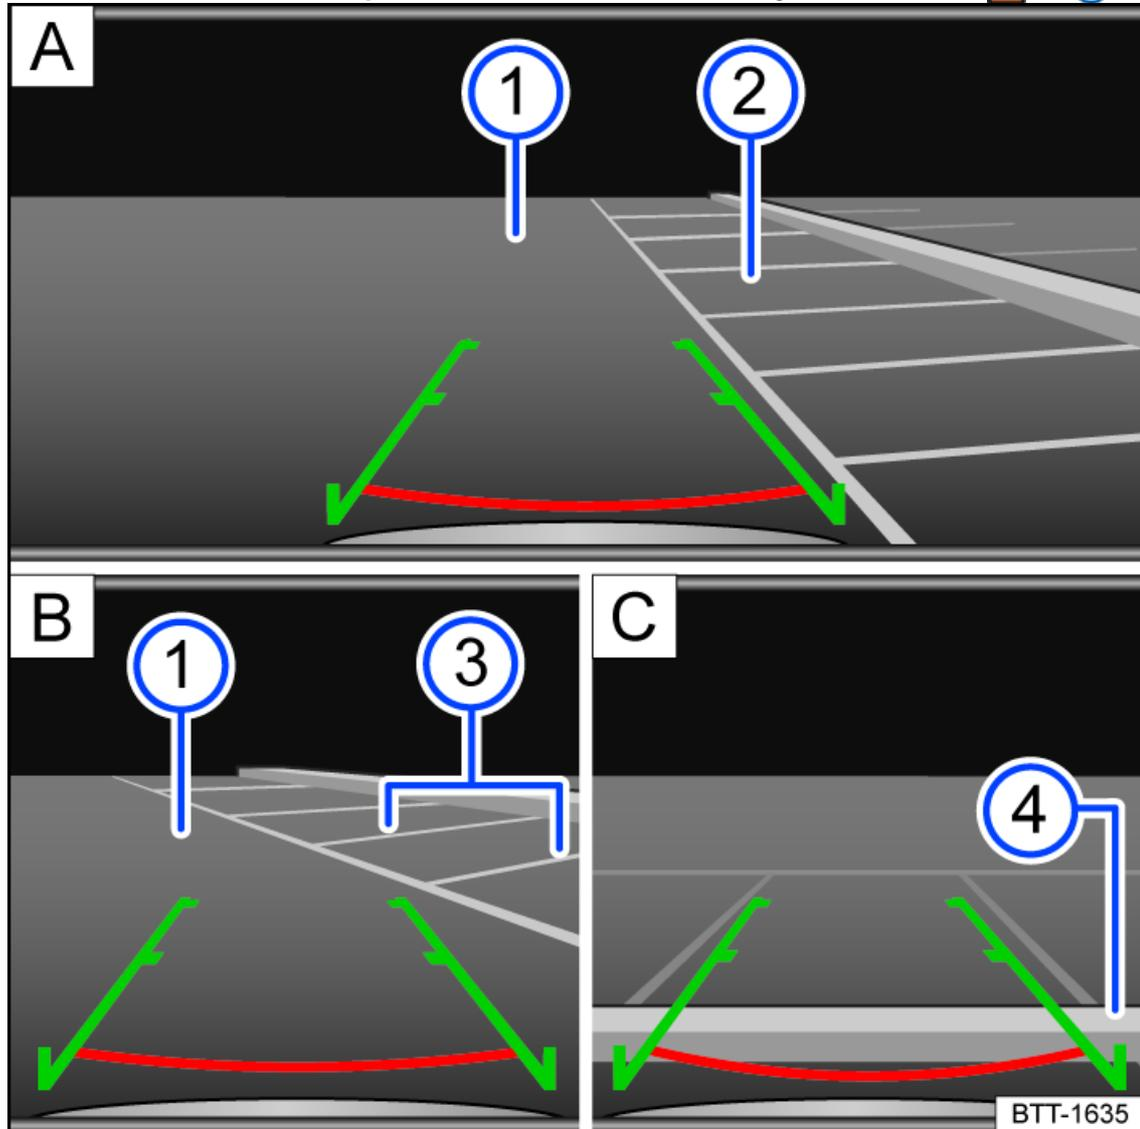

Fig. 124 Infotainment system: Parking with the Rear View Camera system.
1. Position your vehicle in front of the parking space *fig. 124*  .
3. Slowly reverse while steering so that the green side lines line up with the selected parking space. The green lines must line up with the side boundaries of your parking space *fig. 124*  .
4. Stop when the red horizontal line reaches the rear boundary *fig. 124*  .